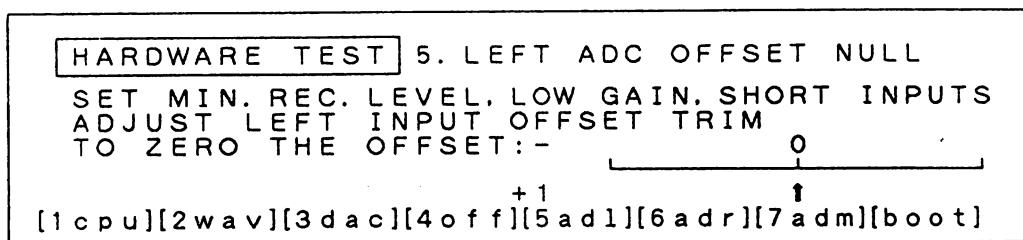

Fig. 4-15
- 1) During the HARDWARE TEST mode, press the "F5/E" button. The following menu will appear on the LC-display(refer to Fig. 4-15).